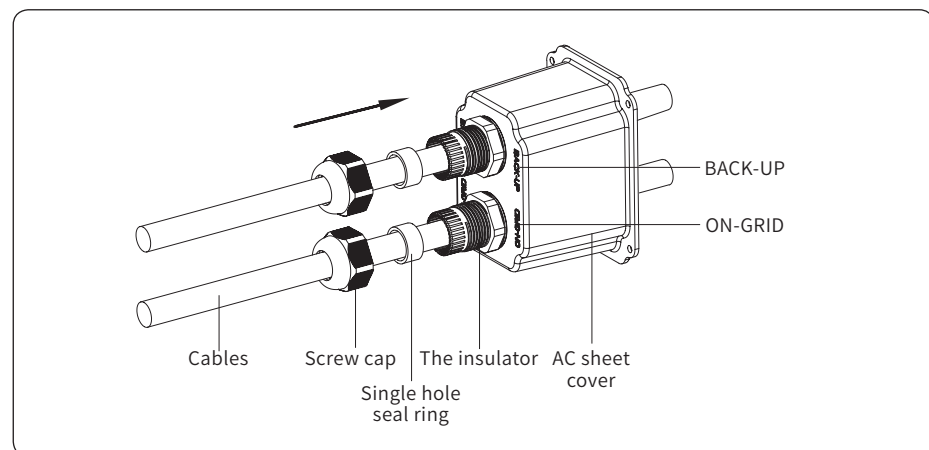

Figure 4-23
2) Insert the stripped AC cables through the AC connector cover in the sequence as shown in Figure 4-23: